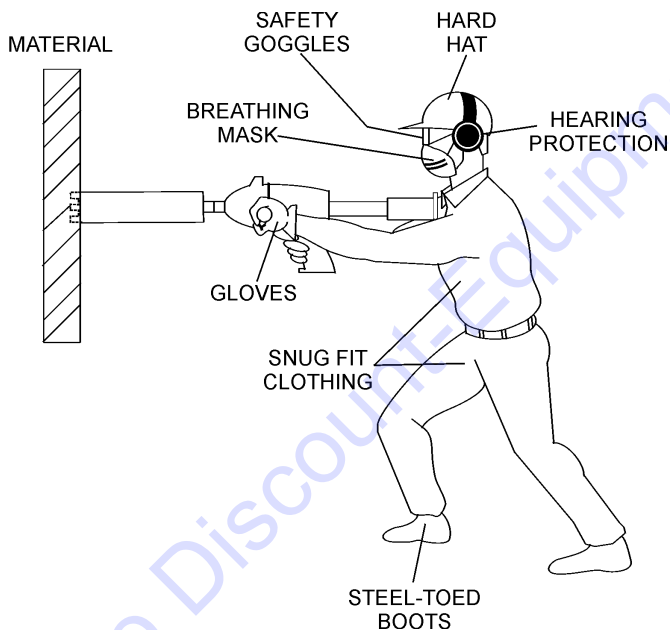
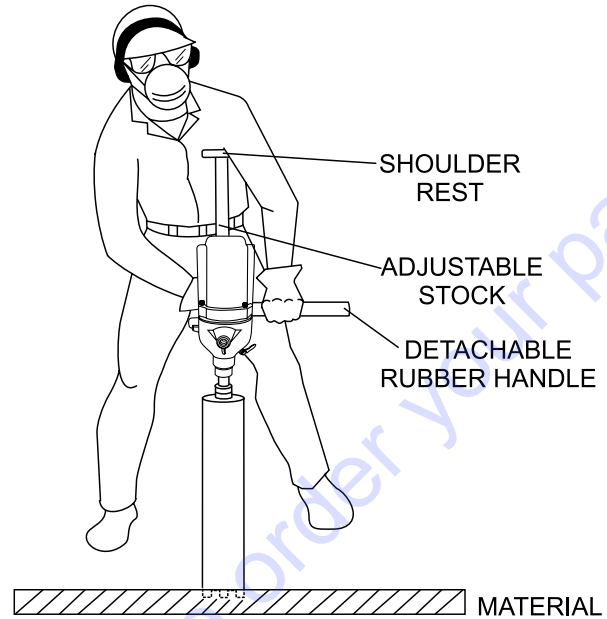

Figure 11. Wall Drilling Application
Figure 12. Floor Drilling Application
3. Place the core drill against the surface (Figure 11 and Figure 12) to be drilled. Hold drill firmly, and squeeze the power ON/OFF switch to begin drilling.